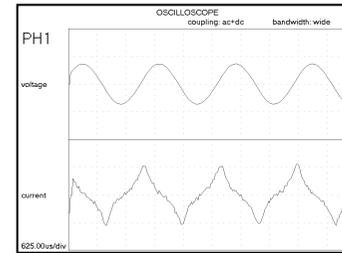
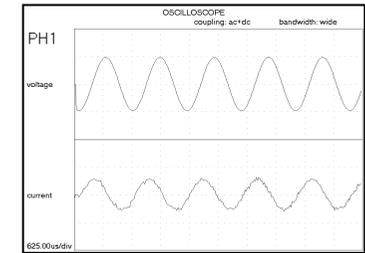

Fig 1 (Distorted current waveform)
Fig 2 (Correct current waveform)
**Note:** The amplifier contains an output rms current protection circuit, and when driving some capacitive loads this circuit may be activated. Due to capacitor construction, at high current the amount of energy transfer distorts the current waveform resulting in excessive peak current (Fig 1 on next page), whilst the rms value remains within specification. To ensure correct functionality and prevent false triggering of the protection circuit, ideally, the current waveform should be a sinewave as pictured in (Fig.2 on next page).